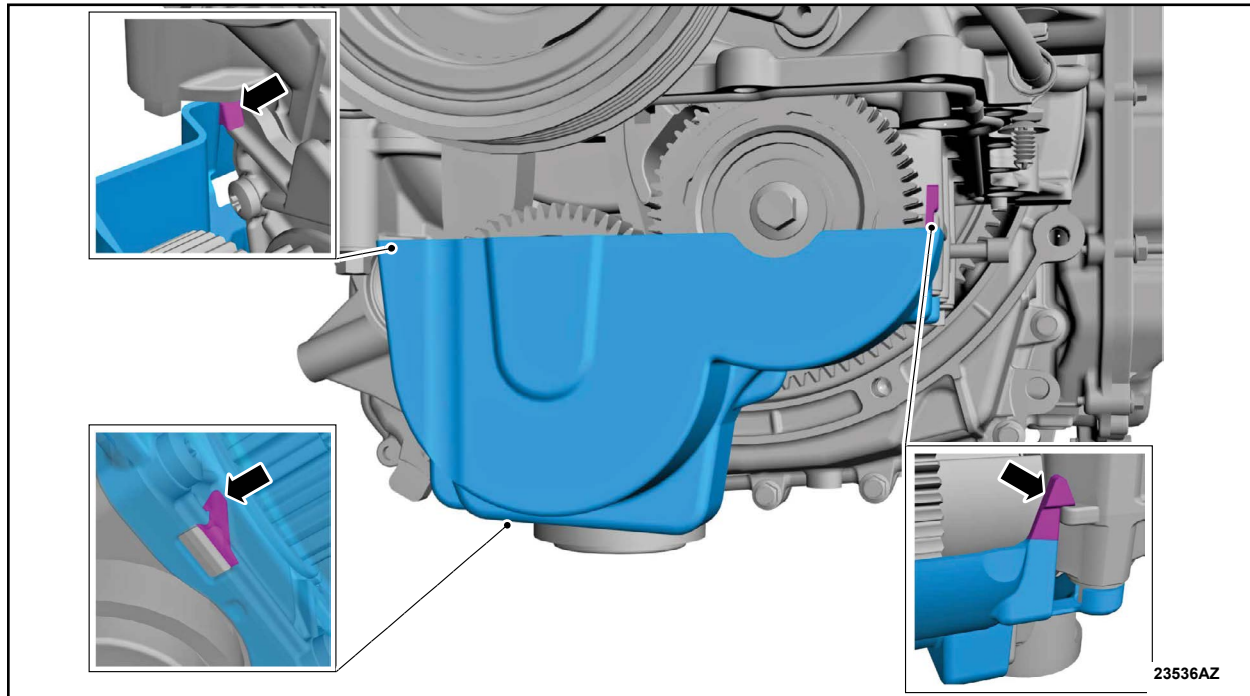

FIGURE 1
4. Remove the engine oil pump cover. See Figure 1 on Page 2.